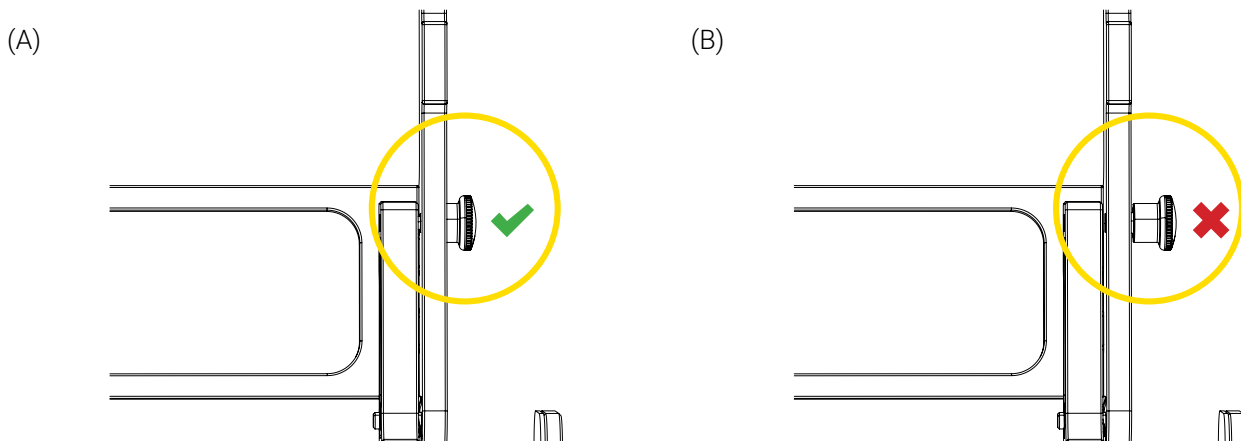

Figure 5: Locking mechanism (1 of 2 knobs shown)
4. Confirm that both quick release knobs are inserted in the bracket to ensure the medical device is properly locked (Figure 5).